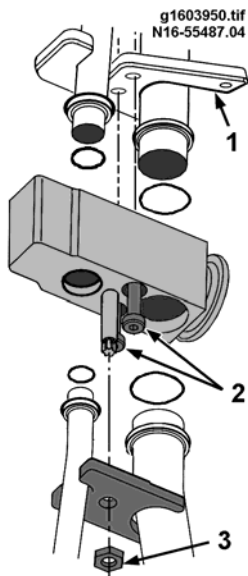

Figure 59 Installation of Rear Thermal Expansion Valve
5. Remove 2 Torx head screws securing TXV to upper lock plate (2, Figure 59). Remove TXV and tape over ports to protect from contamination.
10. From under the vehicle, install new lubricated O-rings onto the evaporator tubes; then install the Thermostatic Expansion Valve (TXV) onto the evaporator tubes (Figure 59). Secure the TXV to the upper locking plate with the 2 Torx head screws removed earlier. Tighten to 4,000 to 4300 N.mm (35.4 to 38.0 lbf-in).